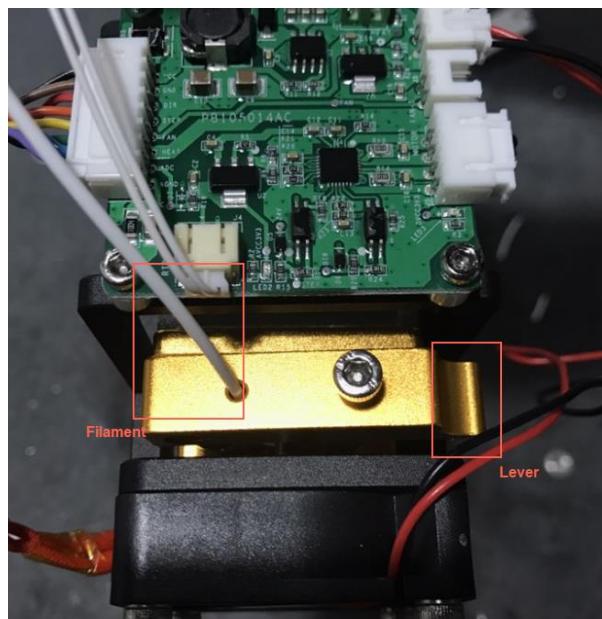
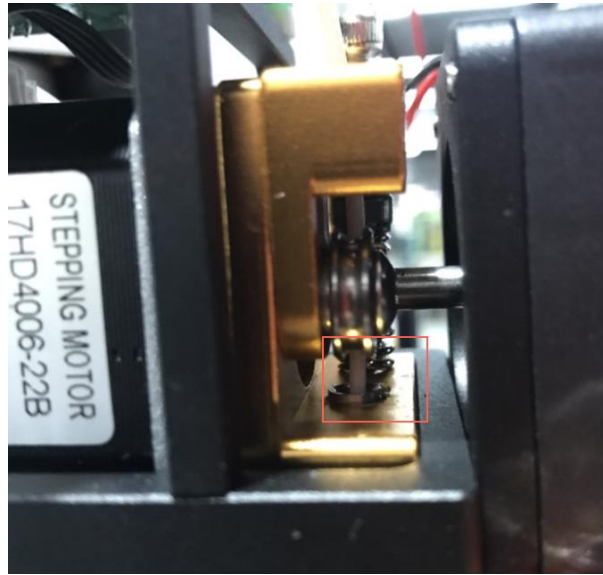

Figure 3.7 Push down the filament (1)
Figure 3.8 Push down the filament (2)
- Step 3** Install the 3D printing filament. Please prepare the filament. Press down the lever on the extruder by hand, and push down the filament to the bottom via a pulley, as shown in Figure 3.7 and Figure 3.8.